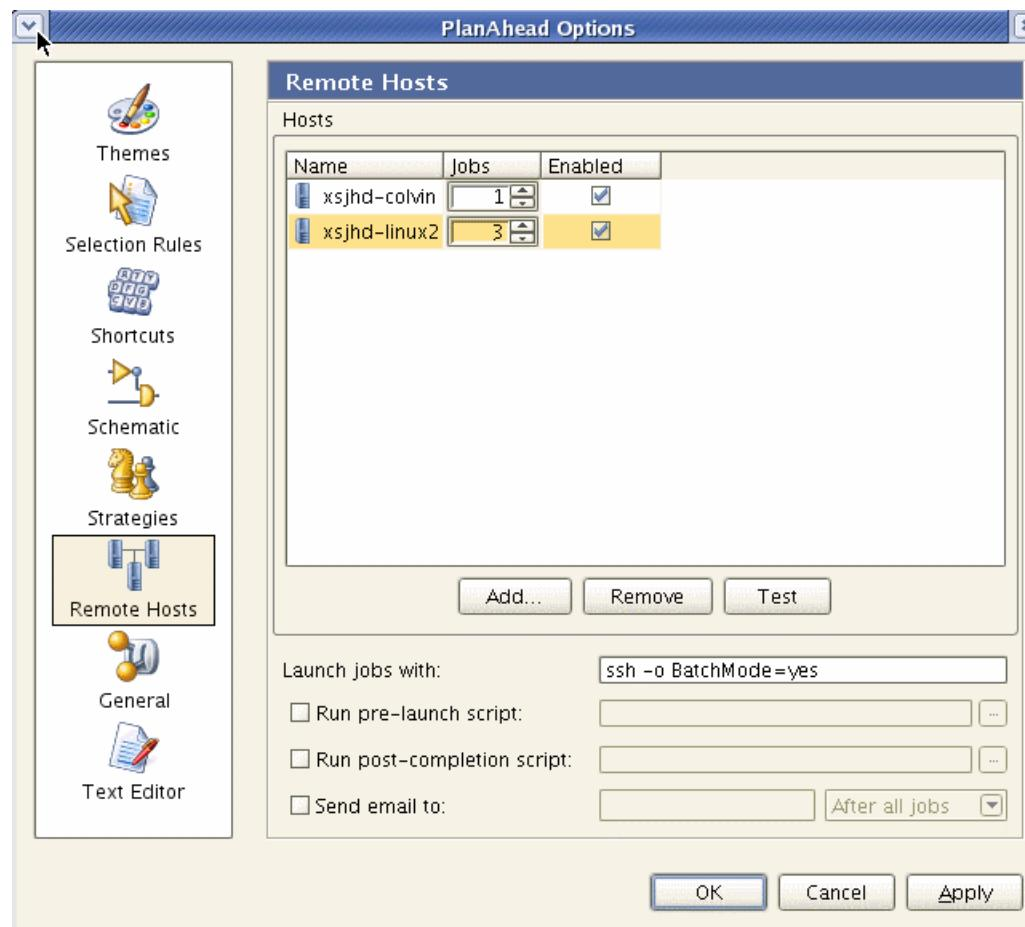

Figure 9-19: Configuring Remote Hosts
- **Configure Hosts** in the Launch Selected Runs options dialog boxThe Remote Hosts dialog box displays as shown in Figure 9-19, page 324.